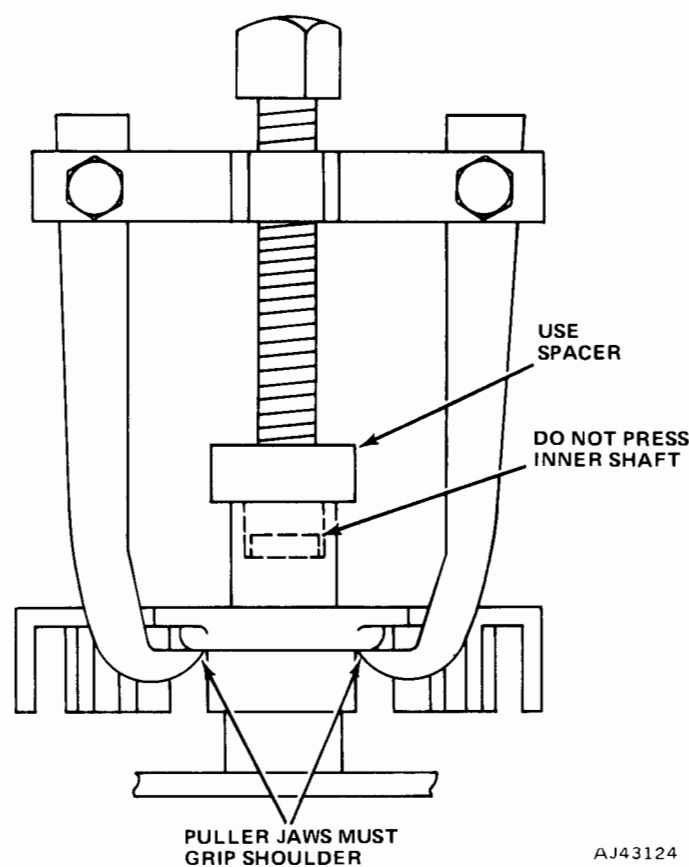

Fig. 3-58 Trigger Wheel Removal
(3) Remove trigger wheel using a small gear puller (fig. 3-58). Be sure the puller jaws are gripping the inner shoulder of the trigger wheel or the trigger wheel may be damaged during removal. Use a thick flat washer or nut as a spacer. Do not press against the small center shaft.
(4) Loosen sensor locking screw about three turns.